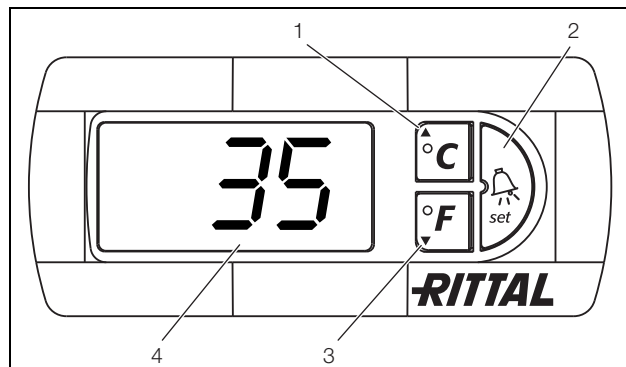

Fig. 12: e-Comfort controller
The cooling unit operates automatically, i.e. after switching on the power supply, the evaporator fan (see fig. 2) will run and circulate the internal enclosure air. The compressor and condenser fan are regulated by the e-Comfort controller. The e-Comfort controller has a 7-segment display (fig. 12, item 4). After switching on the power supply, the current software version initially appears on this display for approx. 2 seconds, followed by a preset option (e.g. t10) or the temperature.
The unit is programmed using buttons 1 – 3 (fig. 12). The relevant parameters also appear in the display.
- Simultaneously press buttons 1 and 2 (fig. 12) for at least 5 sec.
Using buttons 1, 2 and 3 (fig. 12) you can change 24 parameters within the preset ranges (min. value, max. value).